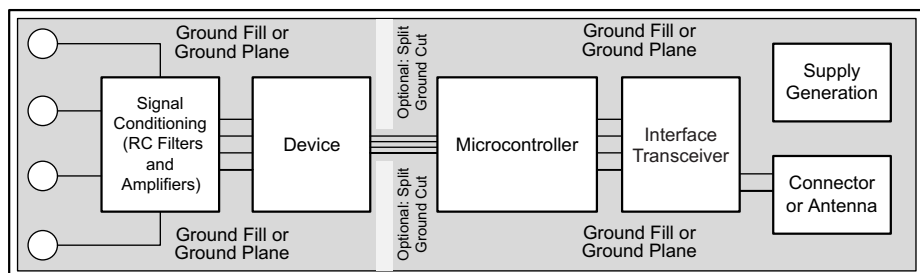

Figure 87. System Component Placement
Employing best design practices is recommended when laying out a printed-circuit board (PCB) for both analog and digital components. This recommendation generally means that the layout separates analog components [such as ADCs, amplifiers, references, digital-to-analog converters (DACs), and analog MUXs] from digital components [such as microcontrollers, complex programmable logic devices (CPLDs), field-programmable gate arrays (FPGAs), radio frequency (RF) transceivers, universal serial bus (USB) transceivers, and switching regulators]. Figure 87 shows an example of good component placement. Although Figure 87 provides a good example of component placement, the best placement for each application is unique to the geometries, components, and PCB fabrication capabilities employed. That is, there is no single layout that is perfect for every design and careful consideration must always be used when designing with any analog component.